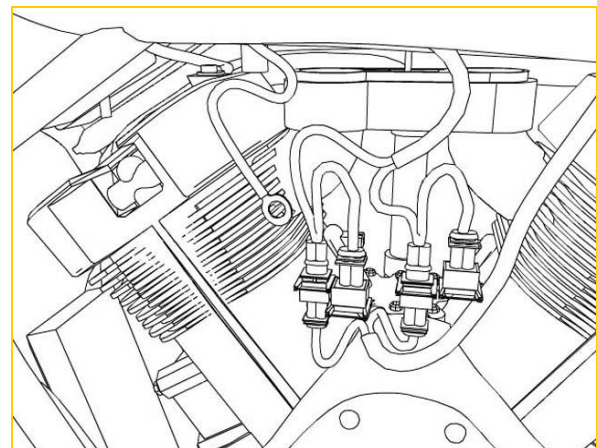

Fig 12
13. Connect the Zodiac Tfi harness to the stock harness. Pay attention to the color-coding. The Zodiac Tfi harness with the yellow and white leads is for the front injector. It is essential the connectors be installed properly at the front and rear injectors. (Fig 12)